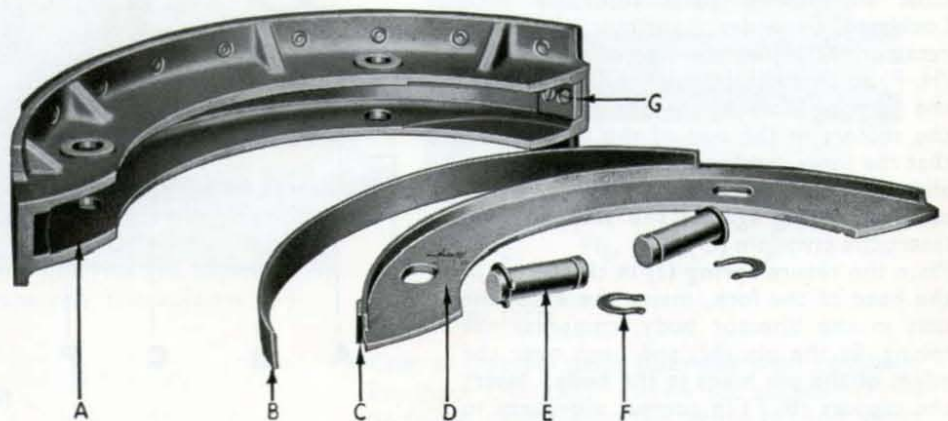

Fig. 51
The double webbed brake shoe (A) (see Fig. 51) is mounted on a shoe carrier (D), contact being made through a brake shoe slider (B) and attachment being effected by means of two anchor pins (E). The brake shoe slider is retained by two stop pads, one being secured to the forward end of the shoe carrier platform and the other to the rearward end of the shoe, between the two webs. The anchor pins are fitted between the brake shoe webs and pass through elongated clearance slots in the shoe carrier; they are retained by circlips (F) fitted at each end.